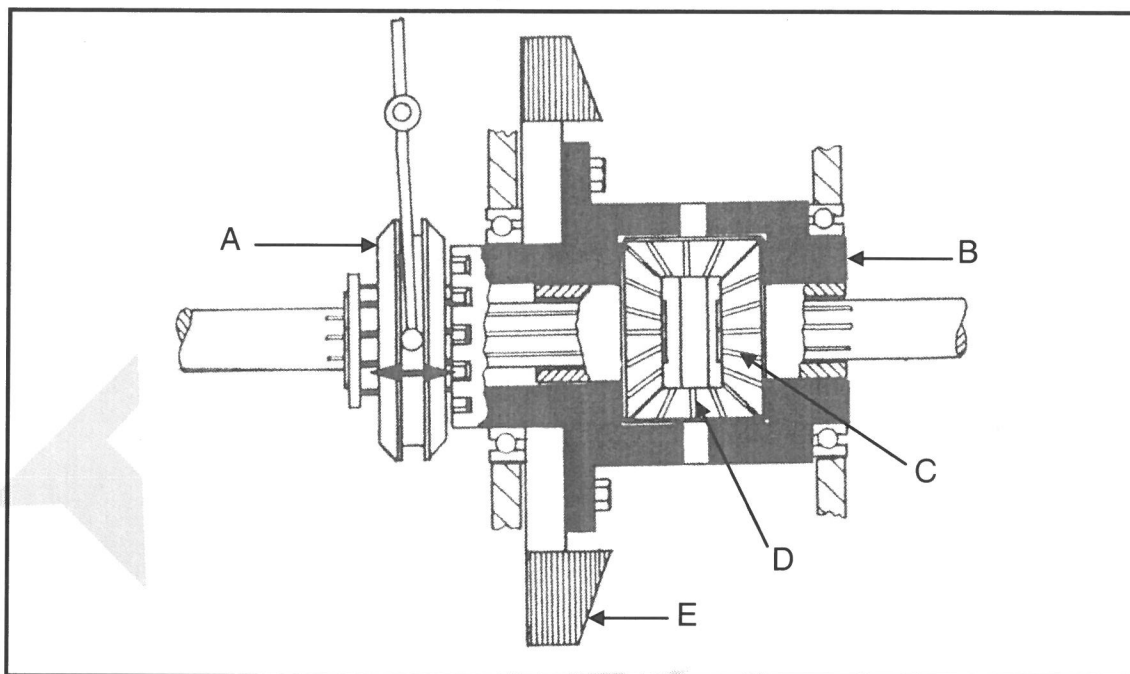

FIGURE 2
4.1 FIGURE 2 below shows a sectional view of a differential lock.